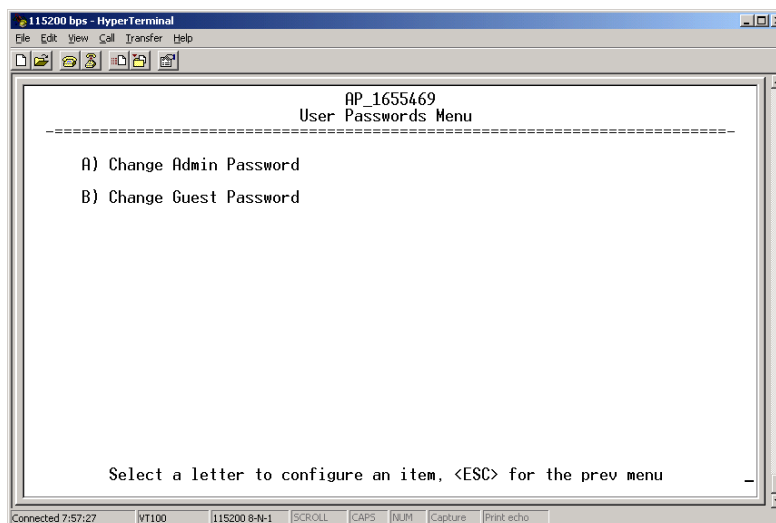

Figure 3-64. User Passwords Menu
- **User Passwords**—Allows changing of Administrative and Guest passwords. When selected, a new screen appears (Figure 3-64 on Page 97).